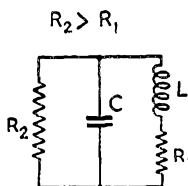
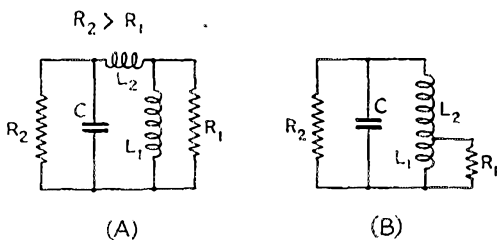

Fig. 1 — Parallel-resonant circuit with equivalent series and parallel resistances.
Fig. 2 — An impedance-matching circuit using series or tapped inductances.
The selection of these frequencies and their intended uses are what OCD calls its "Tri-Part Plan," a subdivision of the 112-116-Mc. band into various segments and a further subdivision of these segments into frequency channels 200 kc. apart (Fig. 2). Each such segment has a specific use. Nominally they are the local-district (LD) band (112-112.8 Mc.), the local-fixed (LF) band (112.8-114 Mc.), the local-mobile (LM) band (114-115.2 Mc.) and the Civil Air Patrol band (115.2-116 Mc.). We shall start at the low frequency end of the band and see what should go on in each segment according to the "Tri-Part Plan."
Fig. 2 — Allocation of channels in the 112-116-Mc. band in accordance with recommended plan. **LD Band** — Channels in this band are used for communication between control center and warning district control center. This is the supplemental circuit between a community and an outside point. **LF Band** — Channels in this band are used for communication between control center and local fixed points such as hospitals, fire stations, wardens' posts, etc. The control center coordinates the activities of the various services over these channels in the event of failure of telephone service. **LM Band** — Channels in this band are used for communication between control center and mobile units of the various services at the scene of the incident. An "up-to-the-second" picture of the progress of the incident is maintained at the control center from information received over these channels. This enables the rapid coordination of all activities and prompt dispatch of aid through the use of any band for outgoing orders from the control center. **CAP Band** — By agreement between the United States Citizens' Defense Corps and the Civil Air Patrol, these four channels have been set aside for the use of CAP to eliminate serious interference which might otherwise occur between air and ground stations.
In some cases, the impedances of an antenna and transmission line are not equal and some sort of transformation must occur before the load can be matched to the line. It is possible to convert an impedance to a higher or lower value by utilizing a circuit known as a filter, network or impedance transformer, composed only of inductances and capacitances. When a filter of suitable design is inserted between the antenna and transmission line, the load presented to the line will be equal to the line impedance, and an impedance match for a flat line is possible. A parallel-resonant circuit of inductance, capacitance and resistance, such as is shown in Fig. 1, has different impedances between various points of the circuit. The impedance between any two points can be found by combining the series and parallel elements in the usual manner. A pi-section filter will accomplish the same transformation, which is equivalent to tapping the antenna across a portion of the inductance or capacitance. These arrangements, shown in Figs. 2, 3 and 4, are not recommended since they require one more element than the circuit of Fig. 1; also, it is impossible to obtain a correct impedance transformation for certain combinations of inductance and capacitance because of insufficient coupling. The impedance transformer should exhibit pure resistance at its terminals, and Everitt2 has shown what the values of the inductive and capacitive reactances should be to satisfy this condition. Equations which have been used in previous *QST* articles,3, 4, 5 are: